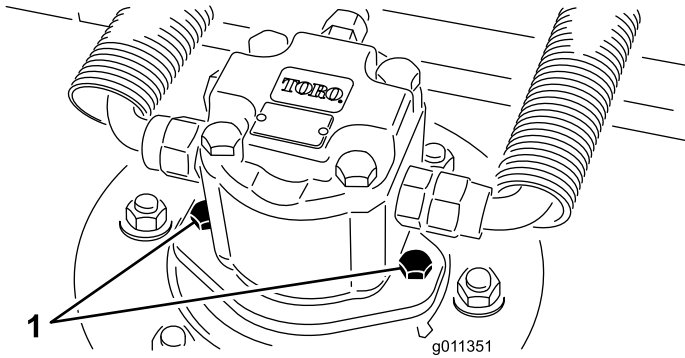

Figure 82
2. Disconnect and remove the hydraulic motor from the cutting unit (Figure 82). Cover the top of the spindle to prevent contamination.
3. Install the hydraulic motor to the cutting unit (Figure 82). Make sure that the O-ring is in position and not damaged.